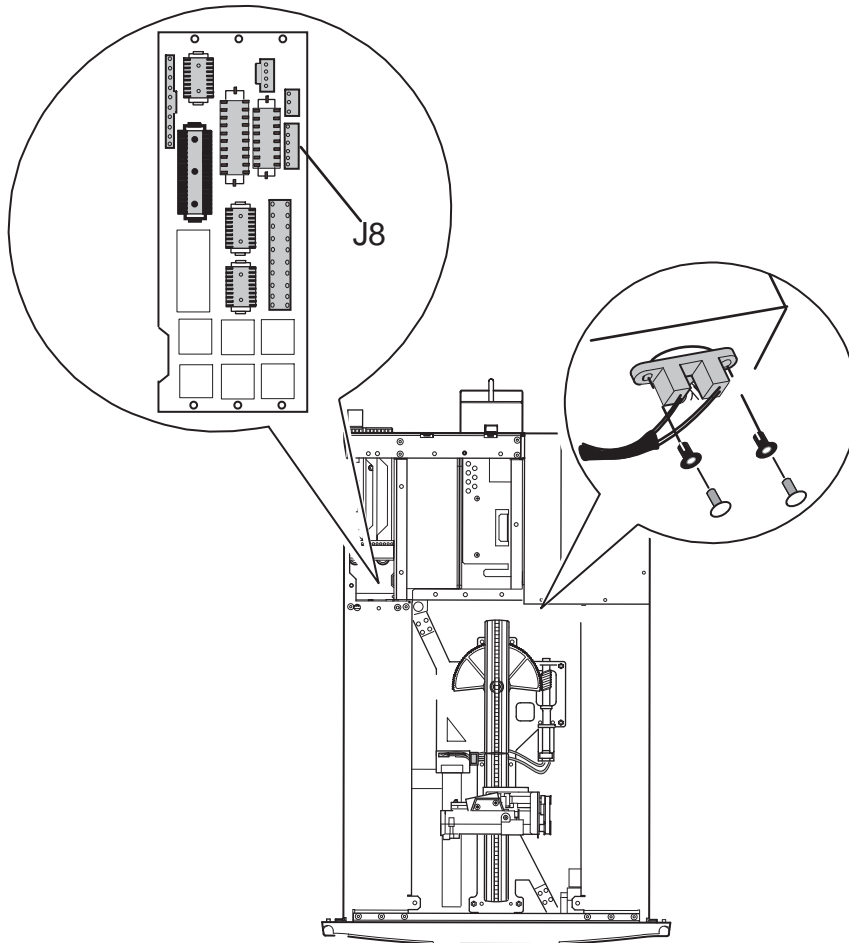

Figure 3–42: Pass-Through sensor removal
5. Remove the two snap rivets that mount the pass-through sensor to the chassis (see Figure 3–42).
7. Disconnect the cable at J8 on the card cage/backplane board (see Figure 3–42).